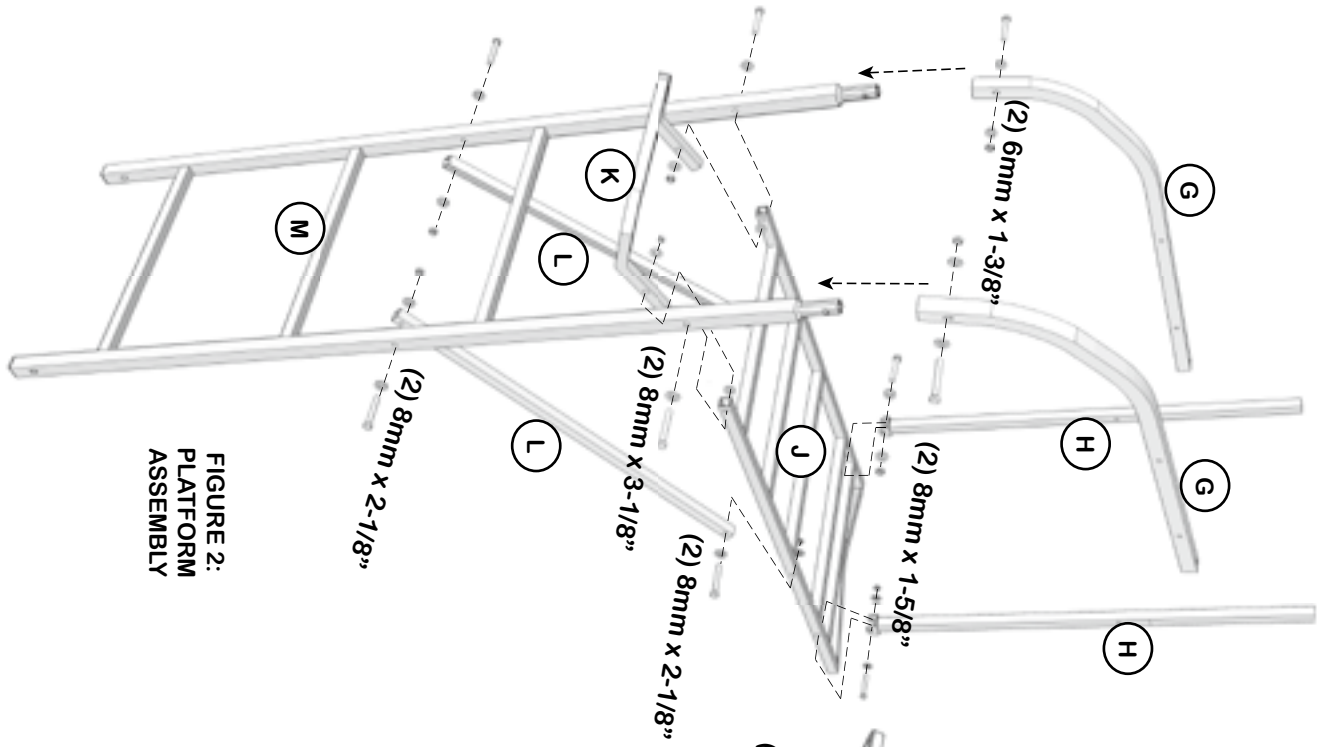
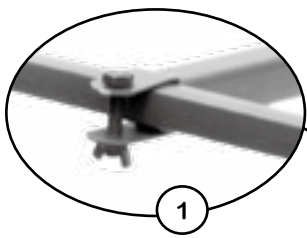

FIGURE 2:
FIGURE 4
STEP 1: Locate the foot platform (J), the top ladder section (M) and the foot rest (K) . Install them together as shown in Figure 2 (Note: The top ladder section has three (3) rungs) using two (2) 8mm x 3-1/8" bolts and locknuts. Finger tighten only.
STEP 2: Locate the seat support tubes (G). Insert them over the crimped ends of the top ladder section (M). Insure the seat support tubes are seated all the way down over the crimped ends of the top ladder section. Install (2) 6mm x 1-3/8" bolts.
STEP 3: Locate the platform support braces (H). Bolt them on the bottom side of the foot platform (J) using two (2) 8mm x 1-5/8" bolts and locknuts. Using one (1) 6mm x 2-1/8" bolt to bolt through the platform support braces on each side. Locate the cross tubes (L), bolt them to the top ladder (M) and foot platform (J) using four (4) 8mm x 2-1/8" bolts and locknuts.
Figure 4: Locate the v-bar (I). Install it on the bottom side of seat support tubes (G) using two (2) 8mm x 2-1/8" bolts and locknuts. Note: Teeth plate on the v-bar shall be facing toward foot platform.
STEP 5: Locate the arm rests (C) and adjustable shooting rail sleeves (D), insert the adjustable shooting rail sleeve to the front of the arm rest which has the 2nd hole in the arm rest lower than other side. Bolt the arm rests (C) to the outside of seat support tubes (G) , using (2) 6mm x 2-1/8" bolts and locknuts, repeat on other side. Locate the seat tubes (E), front seat support tube (F), mesh seat with (2) plastic tubes (B), Install mesh seat with (2) plastic tubes (B) to seat tubes (E). Using one (1) 8mm x 2-1/8" bolt and locknut on each side, bolt the seat tubes (E) to the front seat support tube (F) with one (1) thick plastic washers on each side between the seat tubes (E) and front seat support tube (F). Insert the pockets on the back mesh seat to the platform support braces (H). Locate the shooting rail assembly (A), bolt together using two (2) 6mm x 1-1/8" bolts and locknuts. Locate the assembled mesh seat containing parts (B,E&F) and bolted shooting rail assembly (A). Install them to the arm rests using two (2) 6mm x 3-1/2" bolts, two (2) thick plastic washers and two (2) 6mm locknuts.
STEP 3: Lay the assembled ladder stand face down on the ground with the feet of the lower ladder section 3 or 4 feet (91cm and 122cm) away from the base of the tree. Locate the adjustable support bar assembly (S) (refer to Figure 1). Install the adjustable support bar assembly (S) to the fifth ladder rung from the ground level (as shown in Figure 4). Bolt the bar to the welded tabs using one (1) 8mm x 1-5/8" bolt and one (1) wingnut (as shown in Figure 4①). Tighten securely. Make certain the v-bar portion of the adjustable support bar assembly (S) is extended away from the ladder sections. Note: The adjustable support bar assembly (S) adjusts for length by loosening the wingbolt (as shown in Figure 4②) and sliding the assembly in or out to accommodate length requirements. Once adjustments have been made, you must retighten the wingnut bolt prior to use.